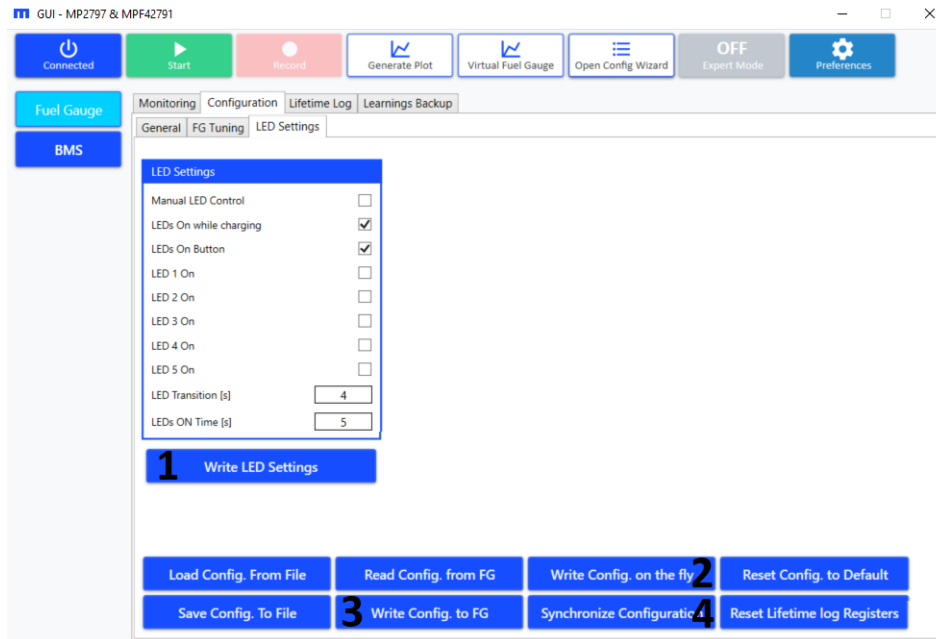

Figure 55: LED Settings
3. Set the LED parameters and write the values to the MPF4279x (see Figure 55 on page 42).
- a. Click “Write LED Settings” (denoted as “1” in Figure 55 on page 42). Write the LED settings to the volatile memory of the MPF4279x. Note that these changes only last until they are overwritten, or a hardware reset occurs. This function can be used while reading is active.
- b. Click “Write Config. on the fly” (denoted as “2” in Figure 55 on page 42). This writes both the fuel gauge settings and the LED settings into the volatile memory of the MPF4279x. Note that these changes only last until they are overwritten, or a hardware reset occurs. This function can be used while reading is active.
Note that the changes written to the volatile memory can be stored to the NVM to be used as default values after the device experiences a hard reset (via a power reset or toggling the RST pin). To save the changes, click “Synchronize Configuration” (denoted as “4” in Figure 55 on page 42).
- c. Click “Write Config. to Fuel Gauge” (denoted as “3” in Figure 55 on page 42). The settings under this tab are stored in both the volatile and the non-volatile memory of the MPF4279x, and are used as default values after the device experiences a hardware reset (see Section 3.7 on page 34 for more details).